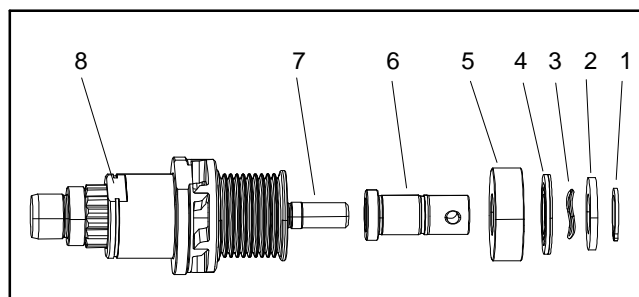

Figure 38
1. Support flex coupler (item 2) to prevent it from being damaged during spring pin removal. Push spring pin from flex coupler and bearing collar (item 23). Slide coupler with hex shaft (item 3) from collar. Discard removed spring pin.
2. Press ball bearing (item 28) from end of reel clutch shaft. Discard removed bearing.
3. Carefully remove retaining ring (item 13) that secures reel brake disc (item 14) to reel drive hub (item 18). Take care to not damage brake disc friction material when removing retaining ring.
4. Remove reel brake disc (item 14) from reel drive hub noting orientation of disc for assembly purposes. Friction material side of disc needs to be positioned toward the reel brake ring (item 11) which is pressed into the transmission housing.
5. Slide reel clutch hub (item 17) and reel clutch fork (item 16) assembly from reel drive hub (item 18). Note correct orientation of indicator mark on fork for assembly purposes. If necessary, remove pivot pins (item 15) and separate fork from hub.
6. Use modified socket (see Special Tools in this chapter) to remove bearing collar assembly from clutch shaft (Fig. 38).
4. Use modified socket (see Special Tools in this chapter) to install bearing collar assembly onto clutch shaft (Fig. 38).